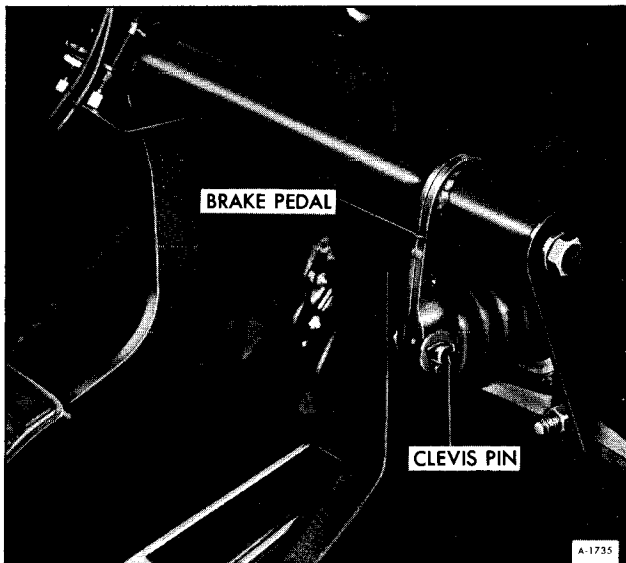

Figure 21—Clevis Pin Location
3. Remove clevis pin from brake pedal (Refer to figure 21).
- booster clevis to brake pedal. Remove clevis pin (figure 21).